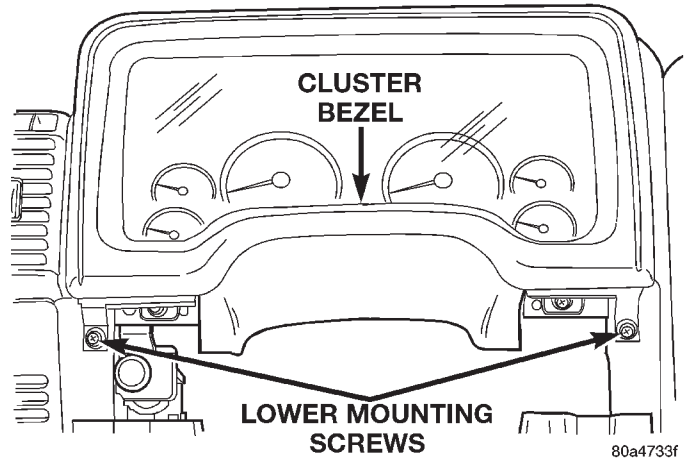

Fig. 7 Cluster Bezel Lower Screws Remove/Install
(1) Disconnect and isolate the battery negative cable.
(2) Remove the steering column opening cover from the instrument panel. Refer to **Steering Column Opening Cover** in the Removal and Installation section of this group for the procedures.
(3) Remove the top cover from the instrument panel. Refer to **Instrument Panel Top Cover** in the Removal and Installation section of this group for the procedures.
(4) Remove the two screws that secure the lower mounting tabs of the cluster bezel to the instrument panel (Fig. 7).